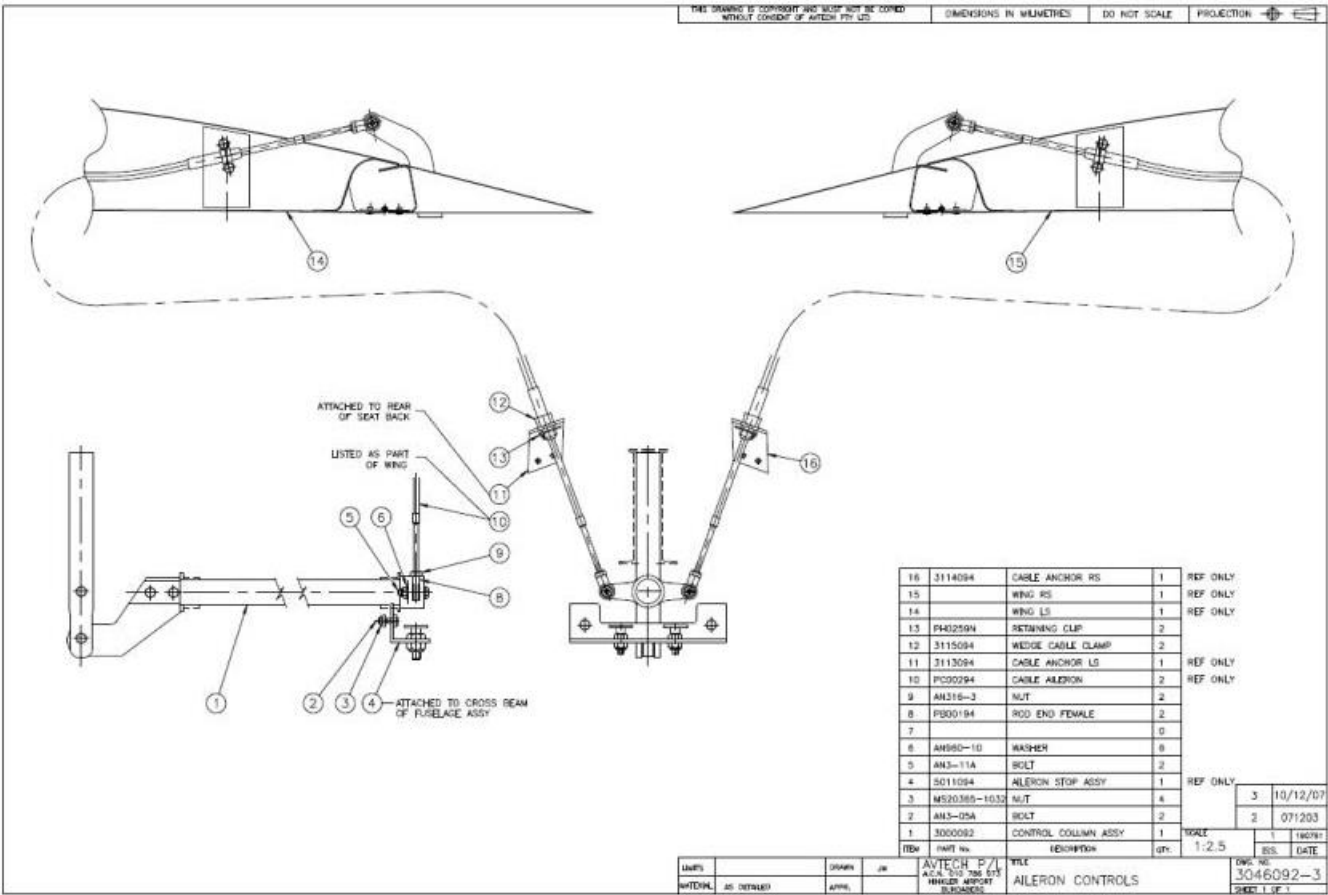
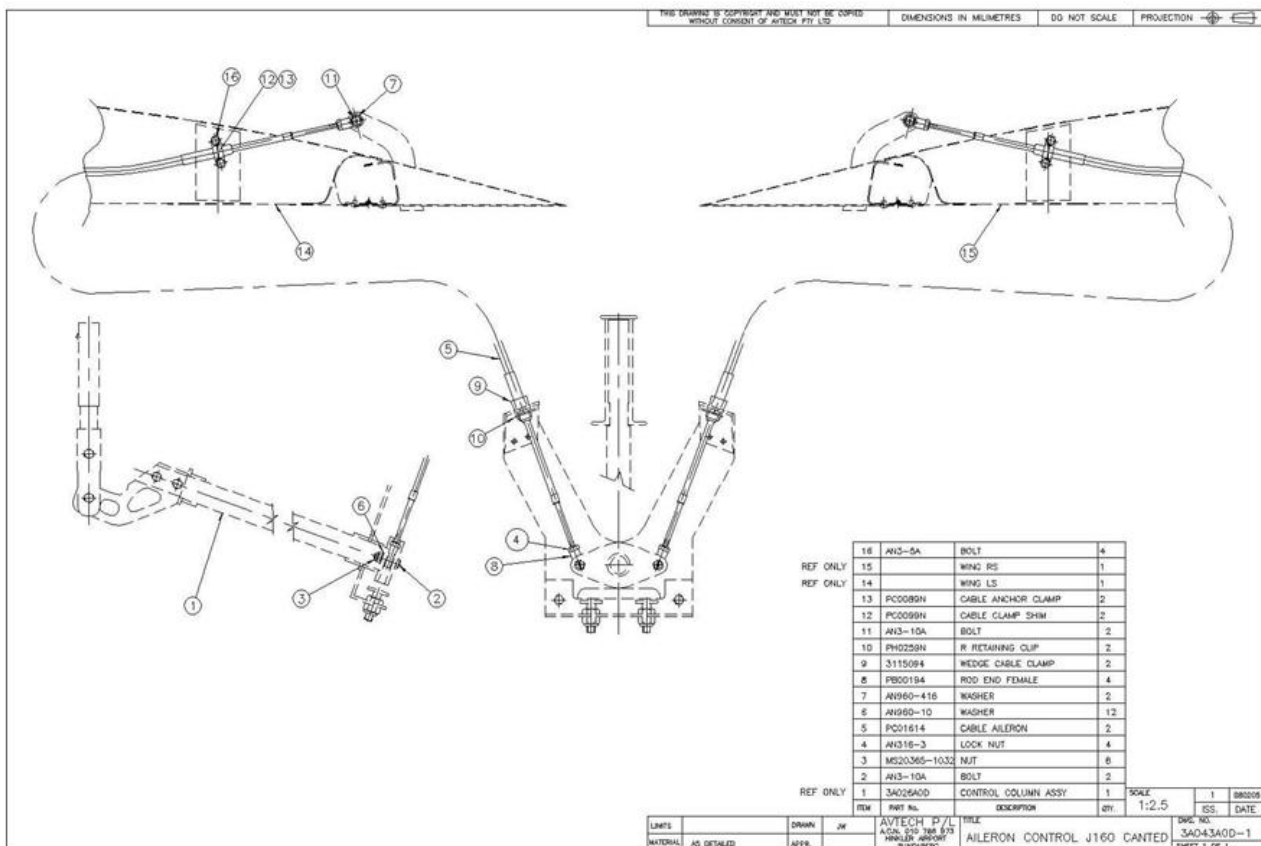
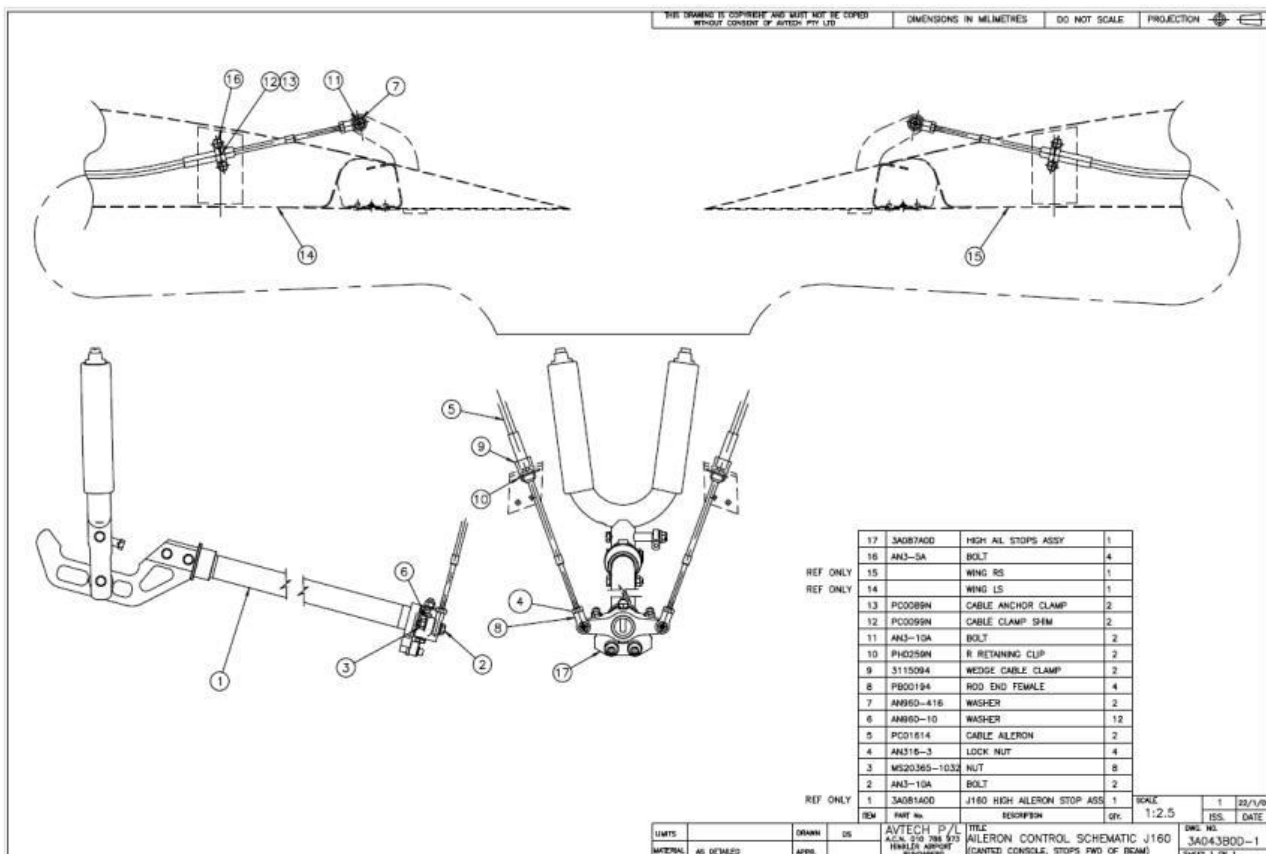

Figure 95 – Aileron Controls – Type 1
Figure 96 – Aileron System Schematic – Type 2.
Figure 97 – Aileron System Schematic – Type 3.
- The general arrangement of the aileron system used in Jabiru Aircraft is shown in drawings below: Figure 95 and Figure 96.
- Refer to drawings below: Figure 95, Figure 96 and Figure 97.